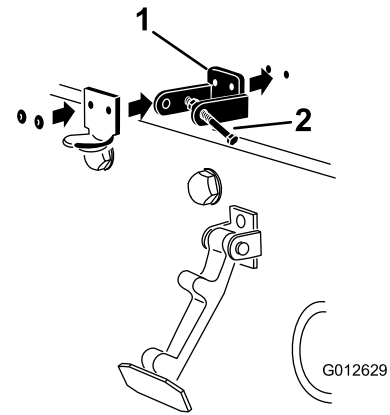

Figure 8
3. While aligning the mounting holes, position the CE lock bracket and the hood-latch bracket onto the hood. The lock bracket must be against the hood (Figure 8). Do not remove the bolt and nut assembly from the lock bracket arm.